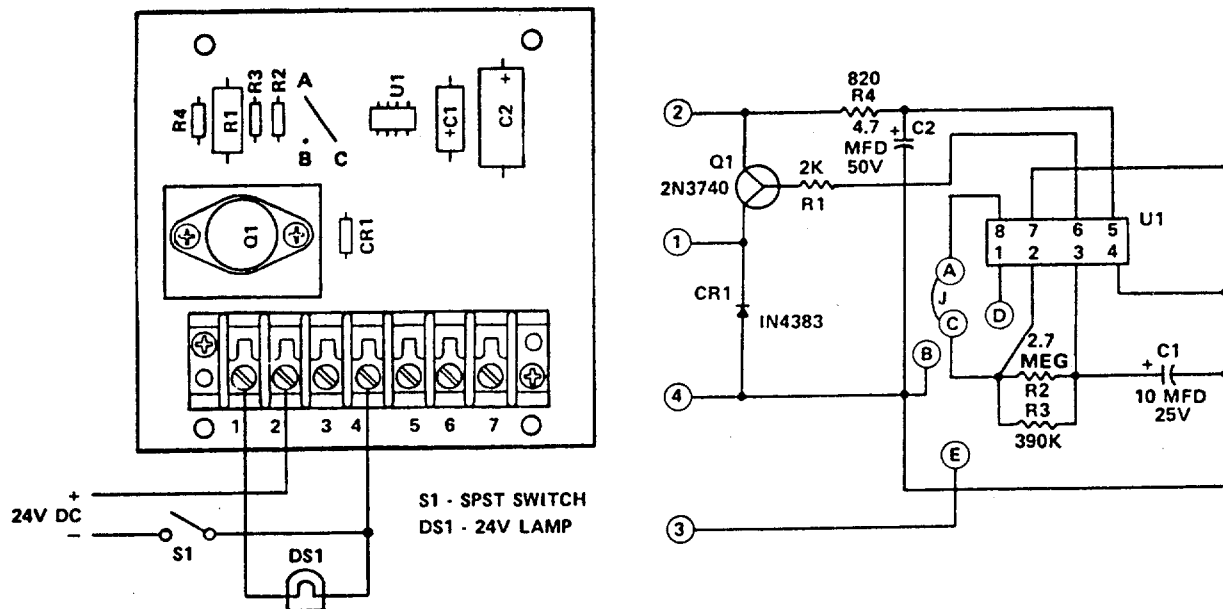

Figure 5-14. Time Delay TD2, Test Setup
- (1) Tests for Replacement Components. Check the following components on TD 2, figure 5-14.
- (2) Test of TD2.
- (a) Connect time delay circuit as shown in figure 5-14.
- (3) Repair. If any of the replaceable components tested in 1 (above) are defective, TD2 is repairable by replacing the defective component. If the printed circuit wiring or a terminal
- (b) Remove screws (83) to remove assembly (87) with brackets (84).
- (3) Repair. If any of the replaceable components tested in 1 (above) are defective, TD2 is repairable by replacing the defective component. If the printed circuit wiring or a terminal board, or